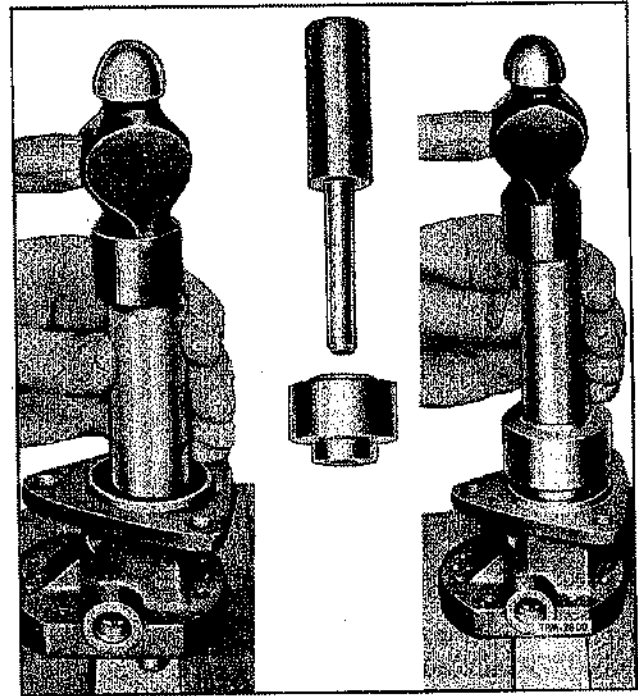

Figure 30—Installing Inner and Outer Seal in Pump Body
1. Use installer tool and adapter and install both seals with lip of seals pointing away from pump body or toward the blower. Use of installer tool correctly positions seals $\frac{1}{16}$ " apart. (Fig. 30).